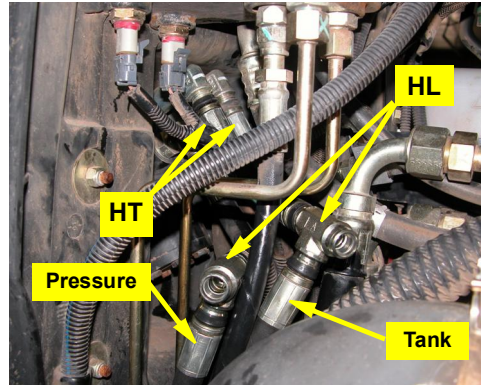

Figure 4d: P and T jumper hoses and run-tees
d. Connect jumper hoses **HT** to the P and T ports on orbital then connect a 'T' end of each run-tee **HL** to the open end of each jumper hose. Reconnect the tractor's pressure and tank hoses to the stem of the run-tees (Figure 4d).